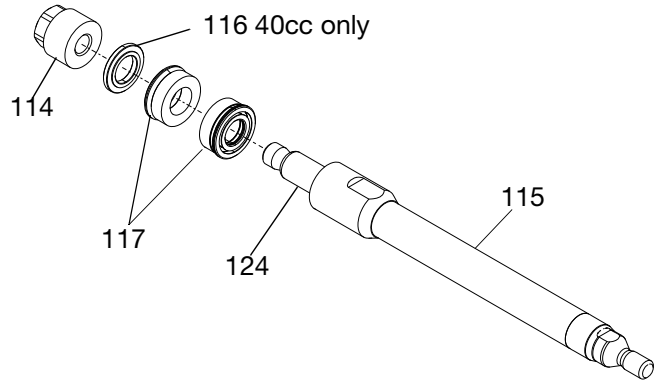
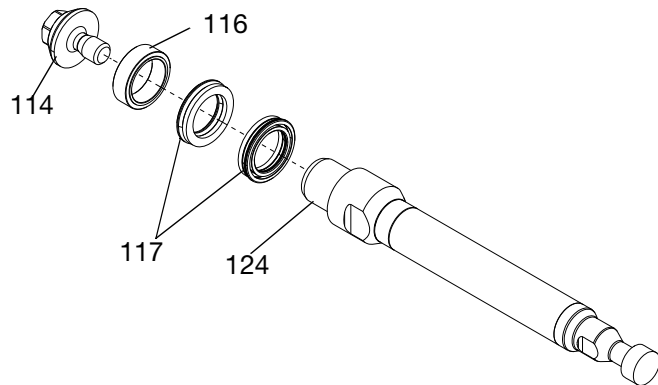

FIG. 24 20cc and 40cc pumps
FIG. 25 80cc through 160cc pumps
2. Apply grease to seal and bearing surface of displacement rod (124), piston seals (117) and piston bearing retainer (116) 40cc -160cc only.
3. Install piston seals (117) onto the pump rod bottom (124). Confirm the first piston seal faces the displacement rod (115) and the second piston seal faces the piston retainer (114) for 20cc size and the bearing retainer (116, 40cc-160cc size. only). See FIG. 24 and FIG. 25